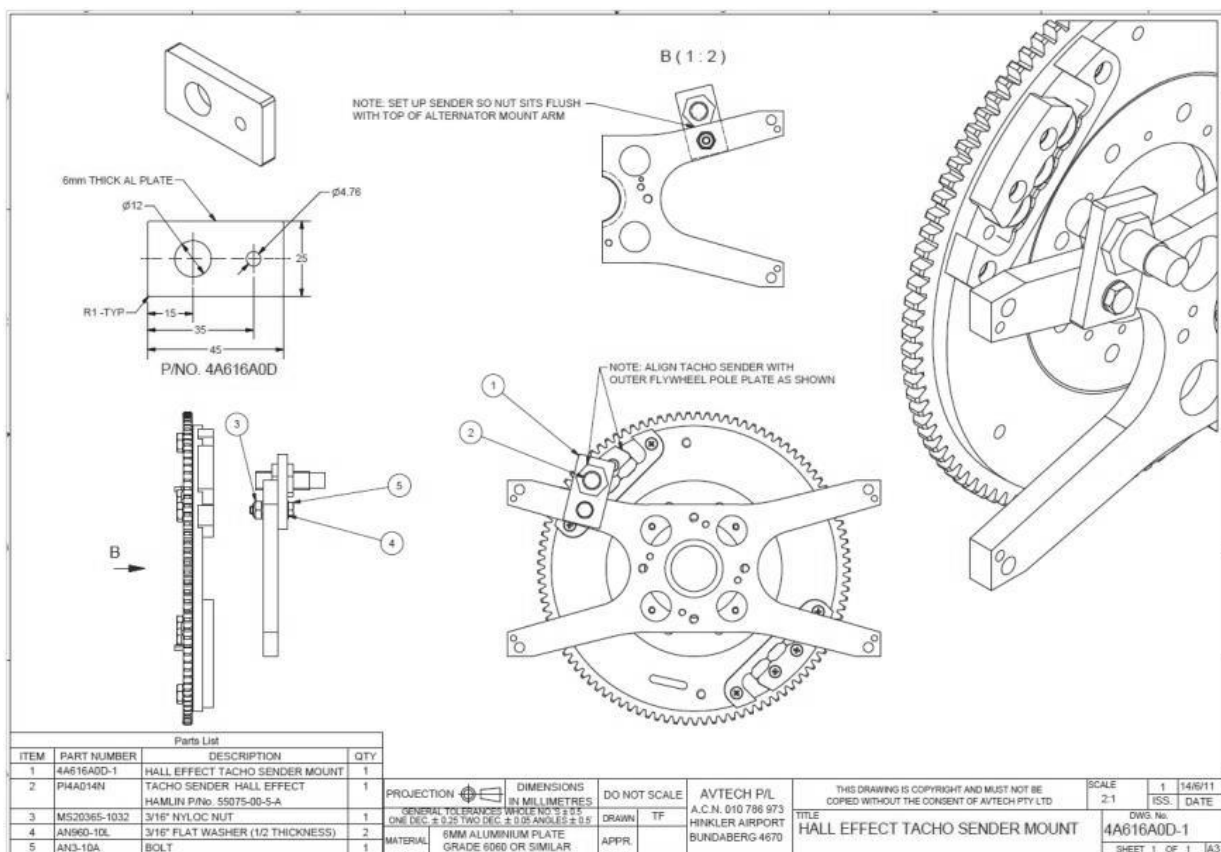

Figure 38 – Tacho Sender #2
- Two types of sender have been used on Jabiru Engines as shown in Figure 37 (Type 1) and Figure 38 (Type 2).
- Type 2 senders are installed per the requirements of Figure 38.